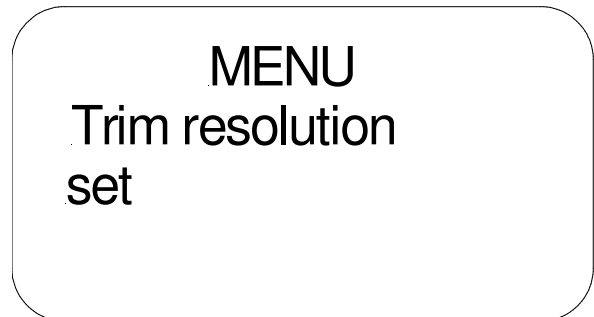

Fig. 28
- Turn the large turning knob (fig. 21.2) in a counter clockwise direction to the submenu: "Trim resolution set " (fig. 28).